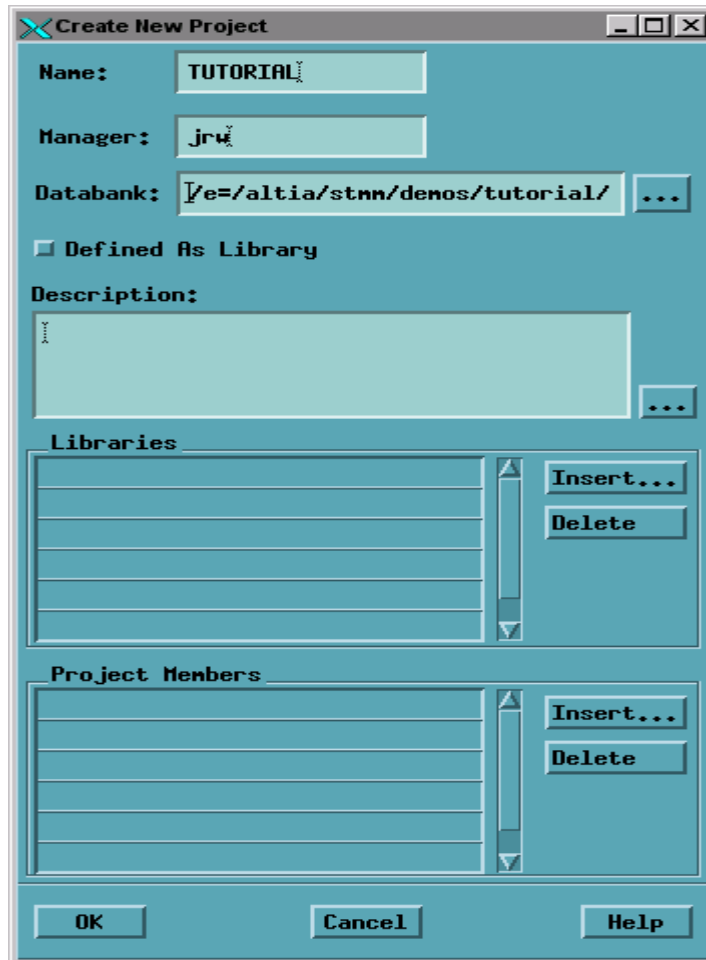

FIGURE 4-1 StateMate Create New Project
3. In the **Name:** field, type **TUTORIAL** and for **Manager:**, type in your StateMate user name. For **Databank:**, type in the location of the sample databank that was included with the StateMate connection (usually located in **\$ALTIAHOME/stmm/demos/tutorial** where **\$ALTIAHOME** is replaced by the actual Altia product directory name) and then click **OK** (see Figure 4-1).